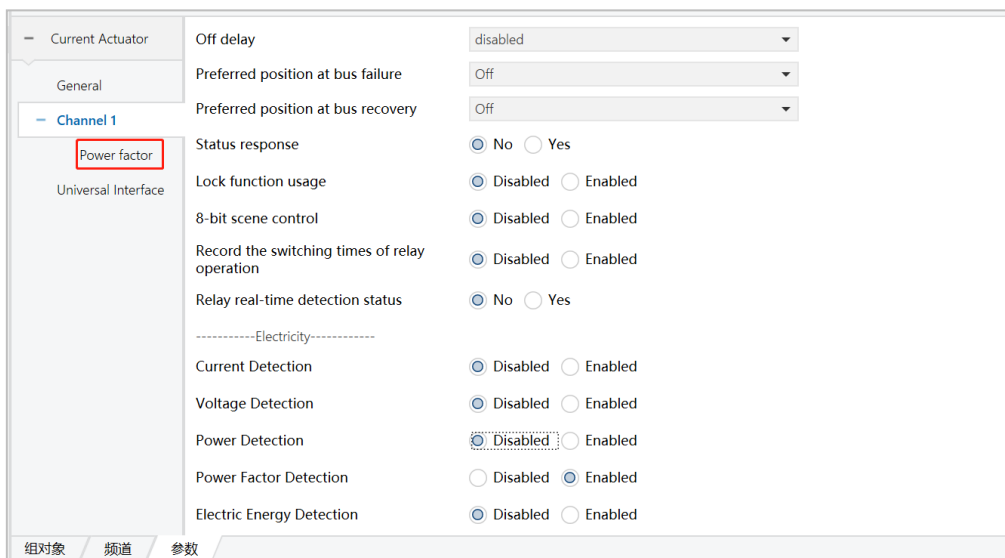

Figure 6.2.7
(1) The parameter "Power Factor Detection" means power factor detection, when you select "Enabled", the interface will appear as shown in Fig. 6.2.7, and the options in the red box will appear as shown in Fig. 6.2.7.